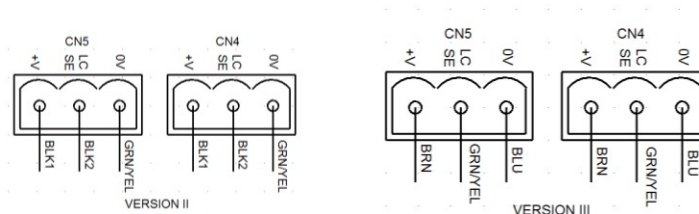

Figure 3- Formula Systems® Wiring
- CN4 and CN5 should be wired as shown in Figure 3- Formula Systems® Wiring (V+ is +24VDC)